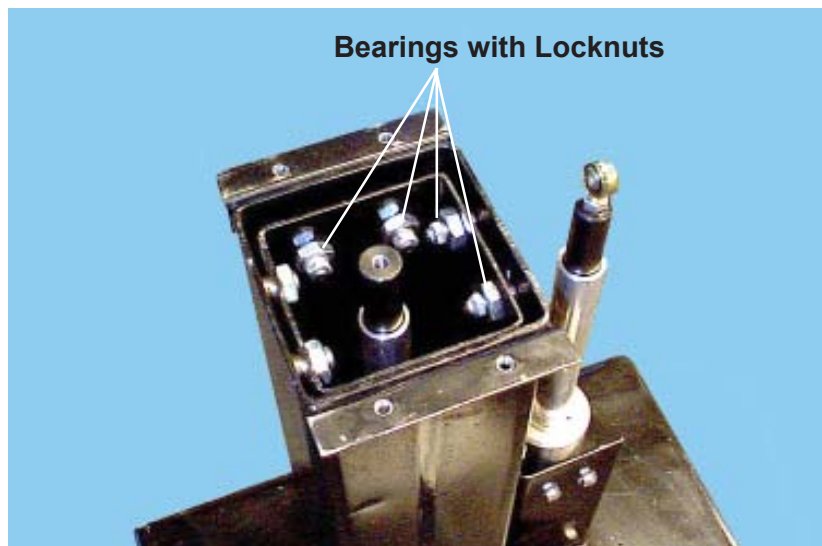

Figure 54. Upper Main Column Bearings
2. Locate the upper main column bearings (Figure 54). There are eight upper main column bearings, however, only four have locknuts. You will be adjusting *only* the four bearings with the lock nuts.